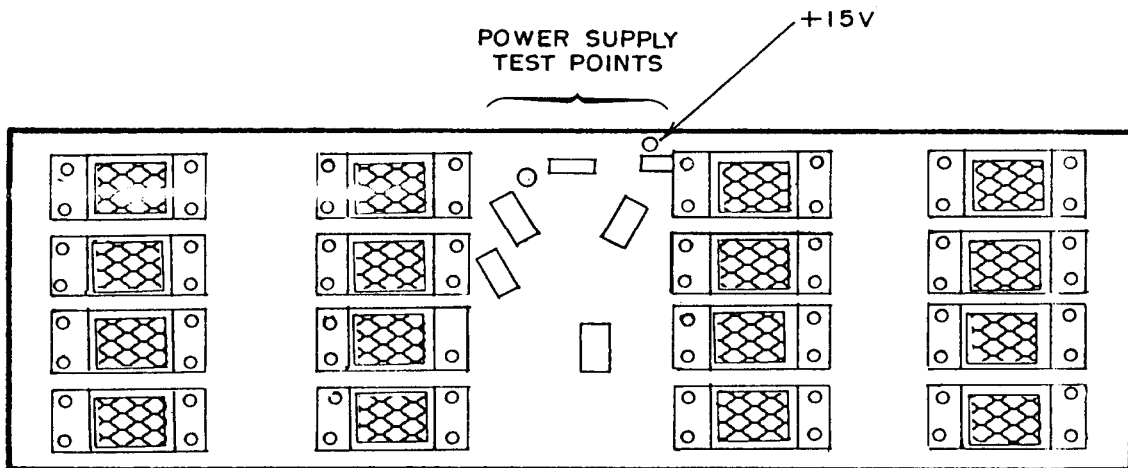

Figure 6. A1 motherboard.
(2) Connect multimeter to +15 V and chassis ground located on A1 motherboard (fig. 6). If multimeter does not indicate between 14.99 and 15.01 V dc, perform **b** below.